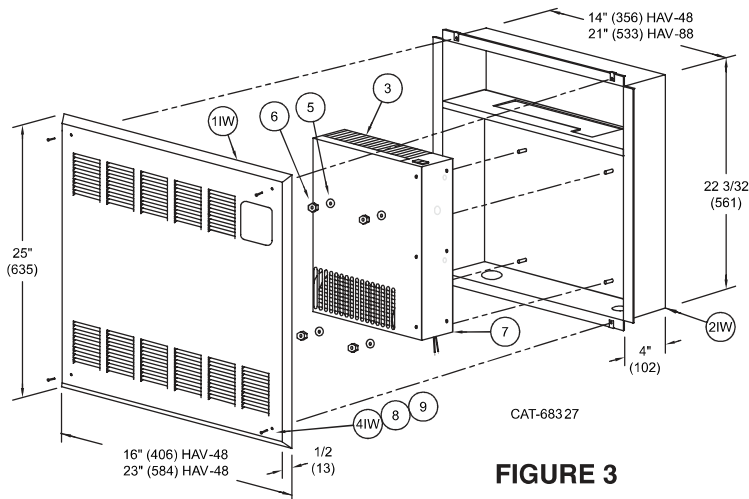
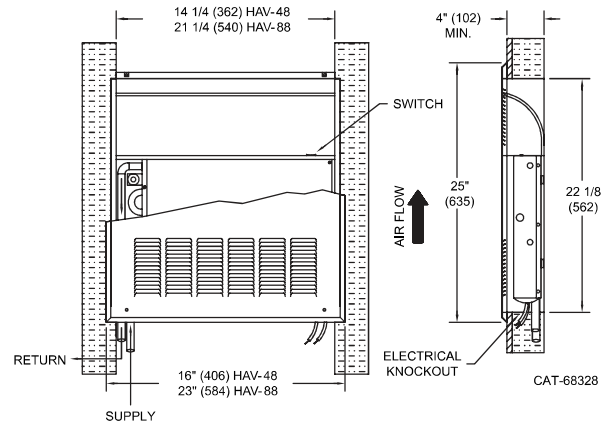
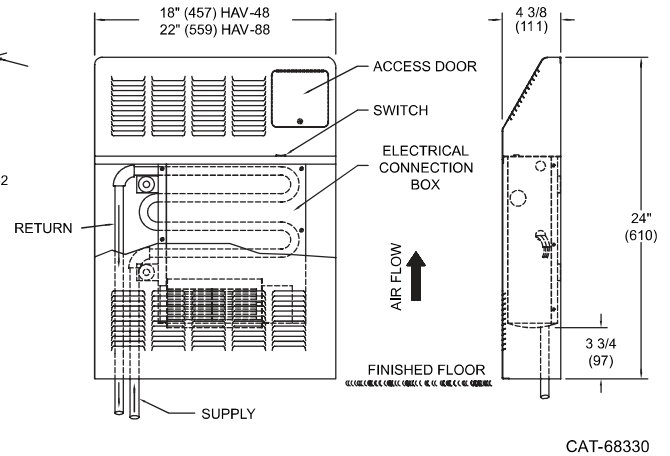

FIGURE 3
FIGURE 4
FIGURE 6
Figures 3 and 5 show exploded views of the wall models. Figure 4 shows the “IW” type mounted in a wall with an air outlet at the top of the unit. Figure 6 shows the wall mounted “EW”. The louvers of the front panel will direct the air flow as shown. Use the following procedures for installation:
VERTICAL FIGURE 3 PARTS LIST
- 1.) Frame an opening between wall studding as shown in Figure 4. Model 48-3 will fit between studs that are on 16" centers. Model 88-3 will require a small amount of framing to suit the mounting. A 7/8" diameter hole is provided at the bottom of the cabinet interior to provide entrances for electrical connections, and a 7/8" diameter knockout is provided at the rear of the motor in the electrical control box. A 2-1/2" diameter hole is provided at the bottom of the cabinet interior to provide an entrance for piping connections. Cut horizontal framing to clear, as necessary.
- 4.) Mount the Fan/Coil Unit (Item 3) to the recessed back panel, remove the electrical control box cover from fan/coil unit. Secure the fan/coil unit in place using Items 5 & 6 as shown in Figure 3. Do not over tighten.